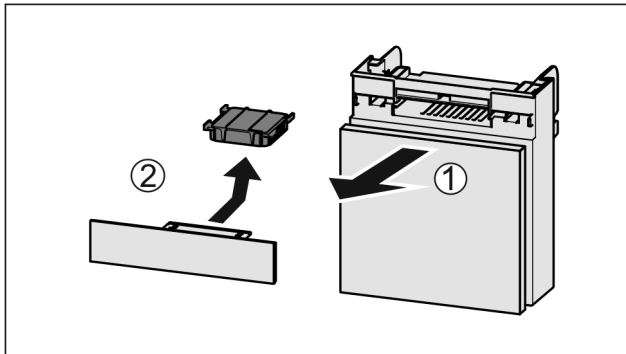

Fig. 189
- Pull out the compartment Fig. 189 (1).
- Remove the carbon filter Fig. 189 (2).